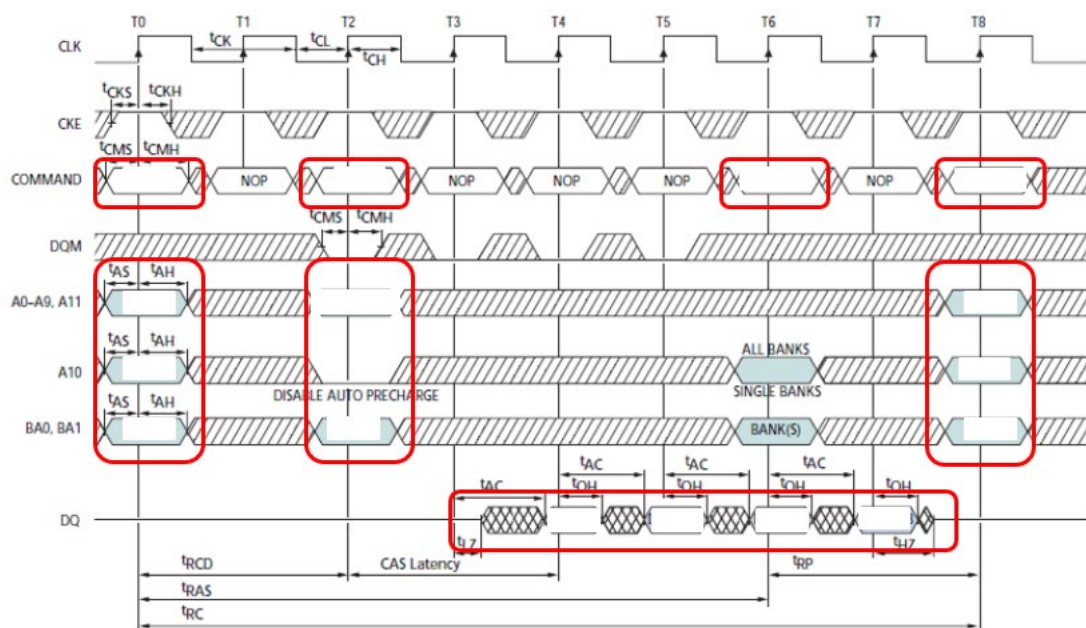

Figure 4.1: SDRAM Read without Auto-Precharge
3. Complete the timing diagrams in Figure 4.1 and 4.2 below, fill in the missing information on commands, data, addresses etc.
- What is the CAS latency of the SDRAM for Figure 4.1?